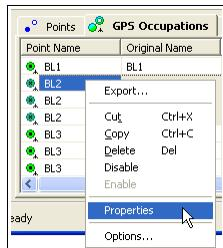

Figure 5-8. Open Properties
- To add a new antenna type to the antenna list or edit a current antenna type, right-click a GPS occupation and click **Properties** on the pop-up menu (Figure 5-8).